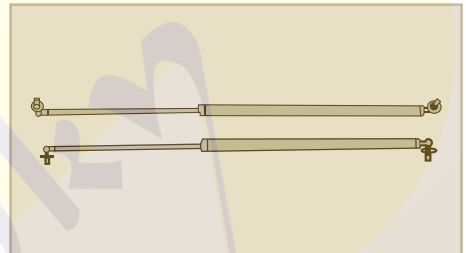

Figure 5
- ✓ 2 x Large Gas Strut to lift the entire base-board, See Figure 5.